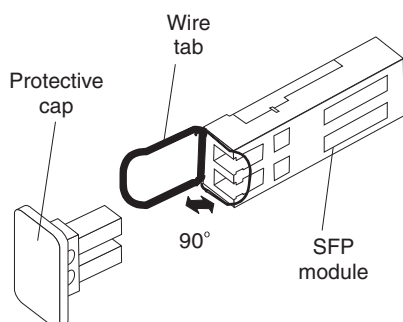

Figure 26. Unlocking the SFP module latch - wire variety
- For SFP modules that contain wire tabs, unlock the SFP module latch by pulling the wire latch as shown in Figure 26.